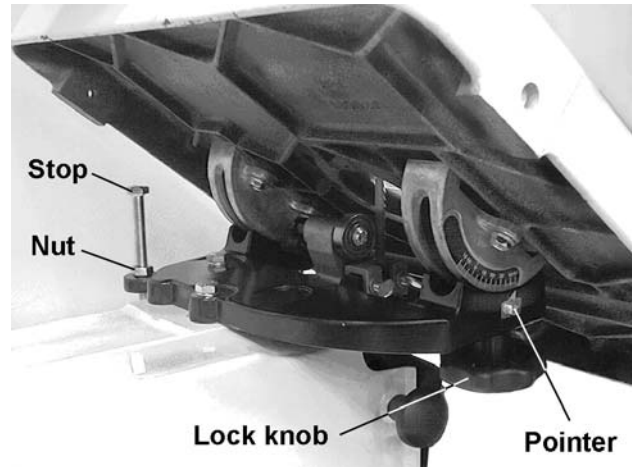

Figure 4
1. Loosen two lock knobs (Fig. 4).
3. Tighten two lock knobs (Fig.4).
1. Loosen lock knobs (Fig. 4) and tilt table left until it rests against table stop.
5. Loosen jam nut and turn table stop (Fig. 4) left or right to raise or lower the stop. Tighten jam nut to hold table stop in place.